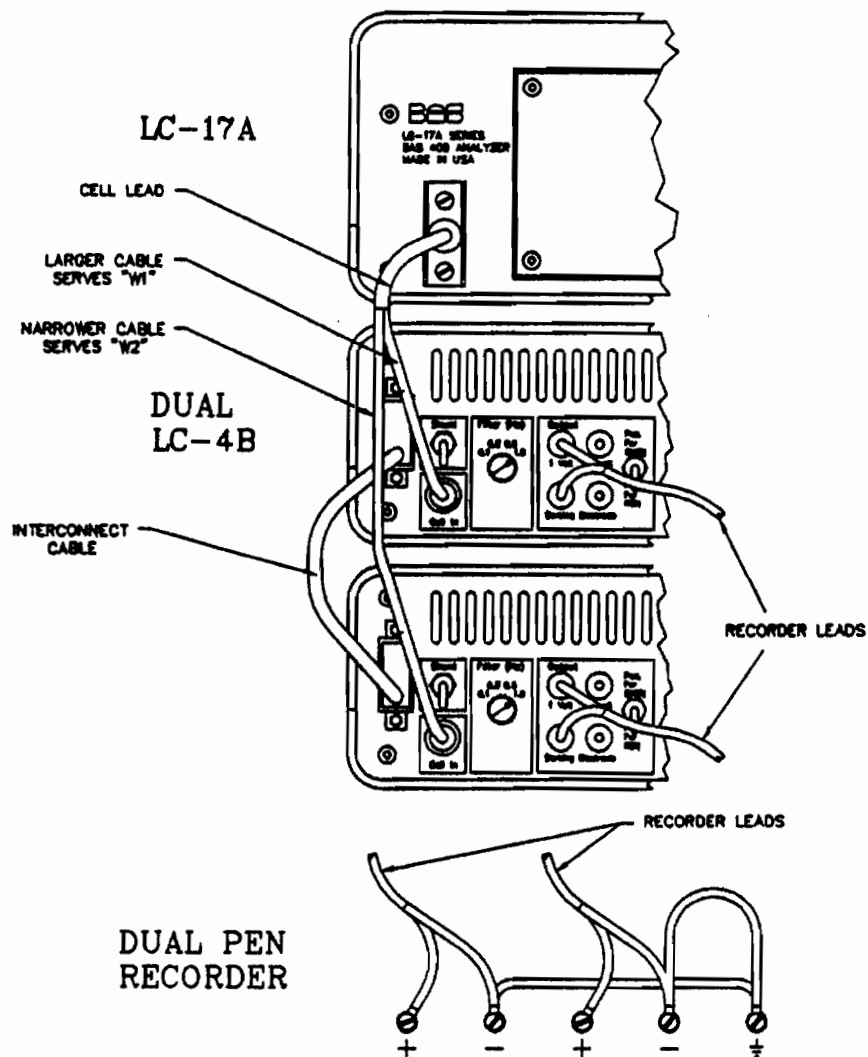

Figure 9-4. Connection of electrode cable and interconnect cable to tandem LC-4B's.
6. The cell lead cable terminates in 2 connectors. Plug into the two LC-4B's. Attach per Figure 9-4. The connector with the larger diameter cable serves " W_1 " and the smaller cable feeds " W_2 ." These designations will
9. Attach the interconnect cable per Figure 9-4. Make sure the connector on this cable marked "W1" is attached to the same LC-4B as the one plugged into the thicker cable in step (6), above.